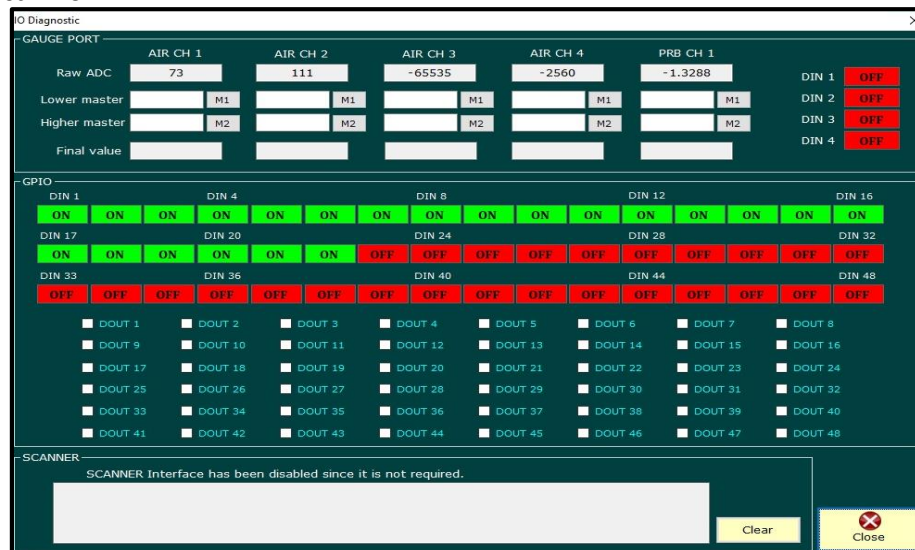

Figure 21
- The inputs and outputs of GPIO can be checked here. As shown in figure 21.